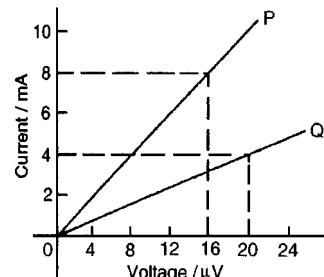

Figure 2.9
- Graphs of current against voltage for two resistors P and Q are shown in Fig. 2.9 Determine the value of each resistor. [2 mΩ, 5 mΩ]